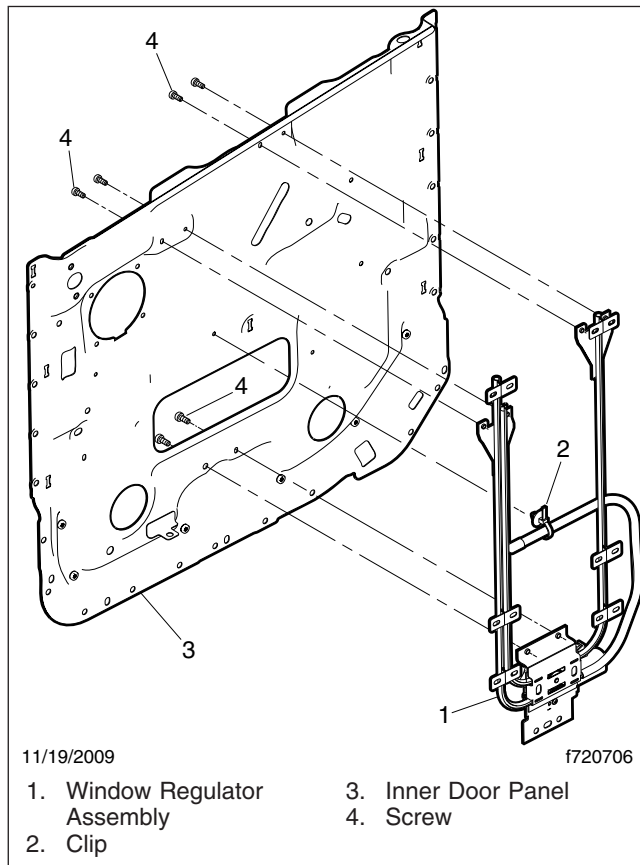

Fig. 5, Old Style Window Regulator Fastener Locations
- Remove the six bolts that attach the window regulator to the inner door panel then cut the two zip tie fir trees to detach the window regulator assembly. See Fig. 5.